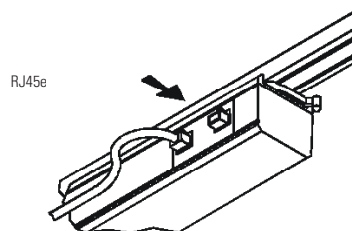

FIG.8
3. For signal termination, connect a DMX signal terminator to the data out of the last luminaire in the network. (sold separately). (Fig.8)